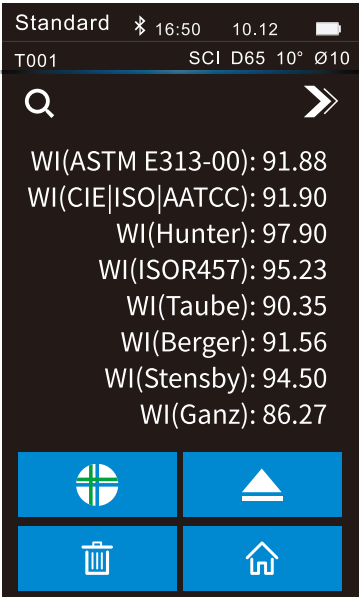

Figure 9 Standard Measurement WI
10) Color index switching: Clicking on " " allows user to switch back and forth between the chromaticity value interface, the spectral graph interface, and the color index display interface. The data displayed in the color index display interface is determined by the options in the color index settings. For example: If the color index interface selects whiteness, then the color index display interface will show the whiteness value (Figure 9). Different instrument models have different color indices, which should be referred to the instrument specification sheet.